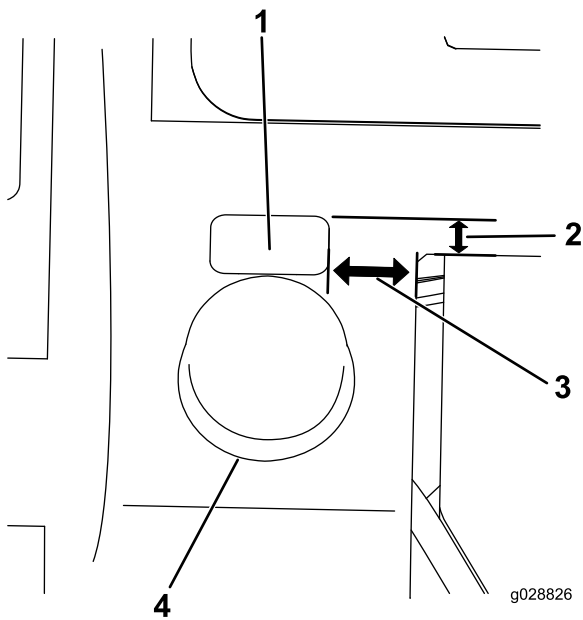

Figure 14
5. Route horn switch and wiring harness up through the dashboard to the hole in the dashboard and screw the button back onto the switch (Figure 14).
6. Install the decal in the location shown in Figure 14.